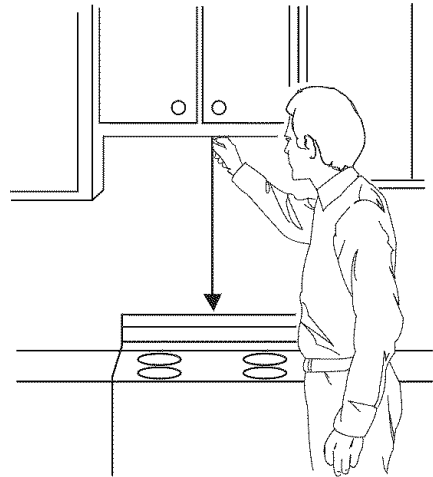

Figure 23
1. Using a plumb line and measuring tape, find and mark the vertical center line on the back wall, as in Figure 23.
NOTE: Be sure the minimum width is 30 inches and the distance from the top of the wall template to the range or counter top is at least 32 inches. See Figure 23.